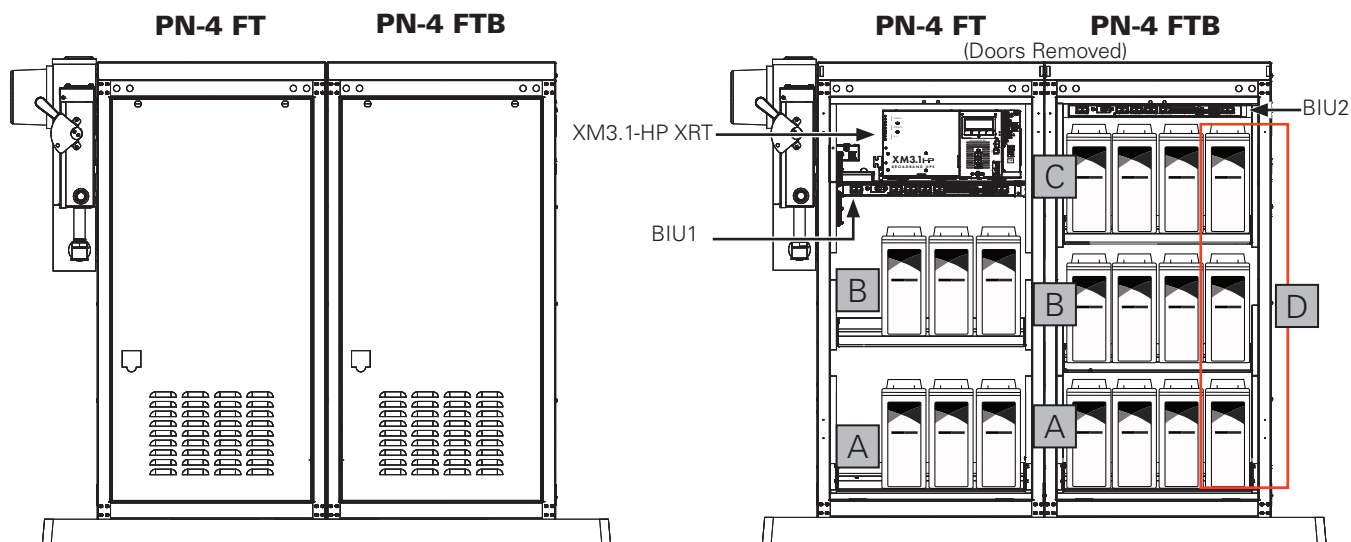
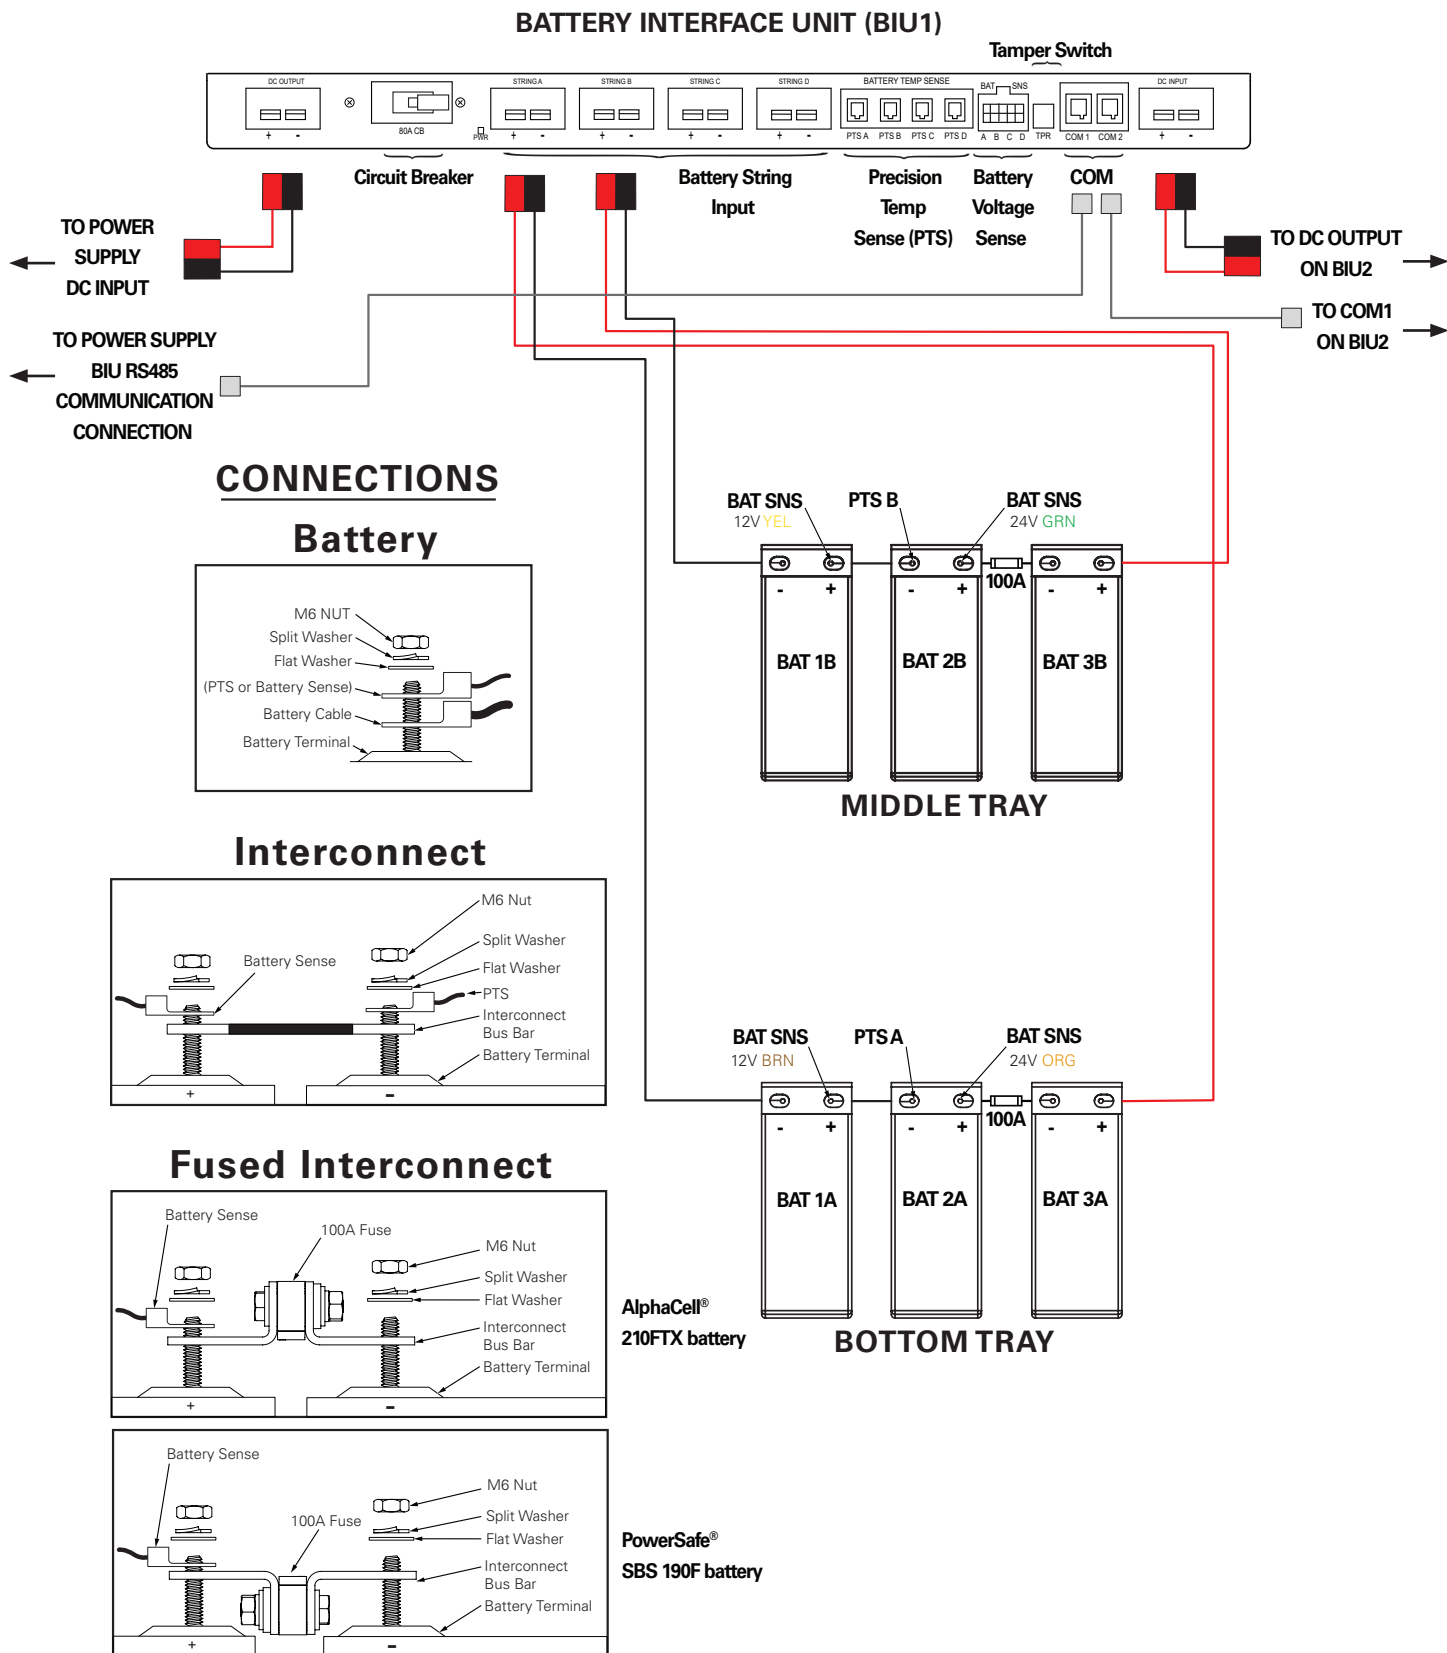
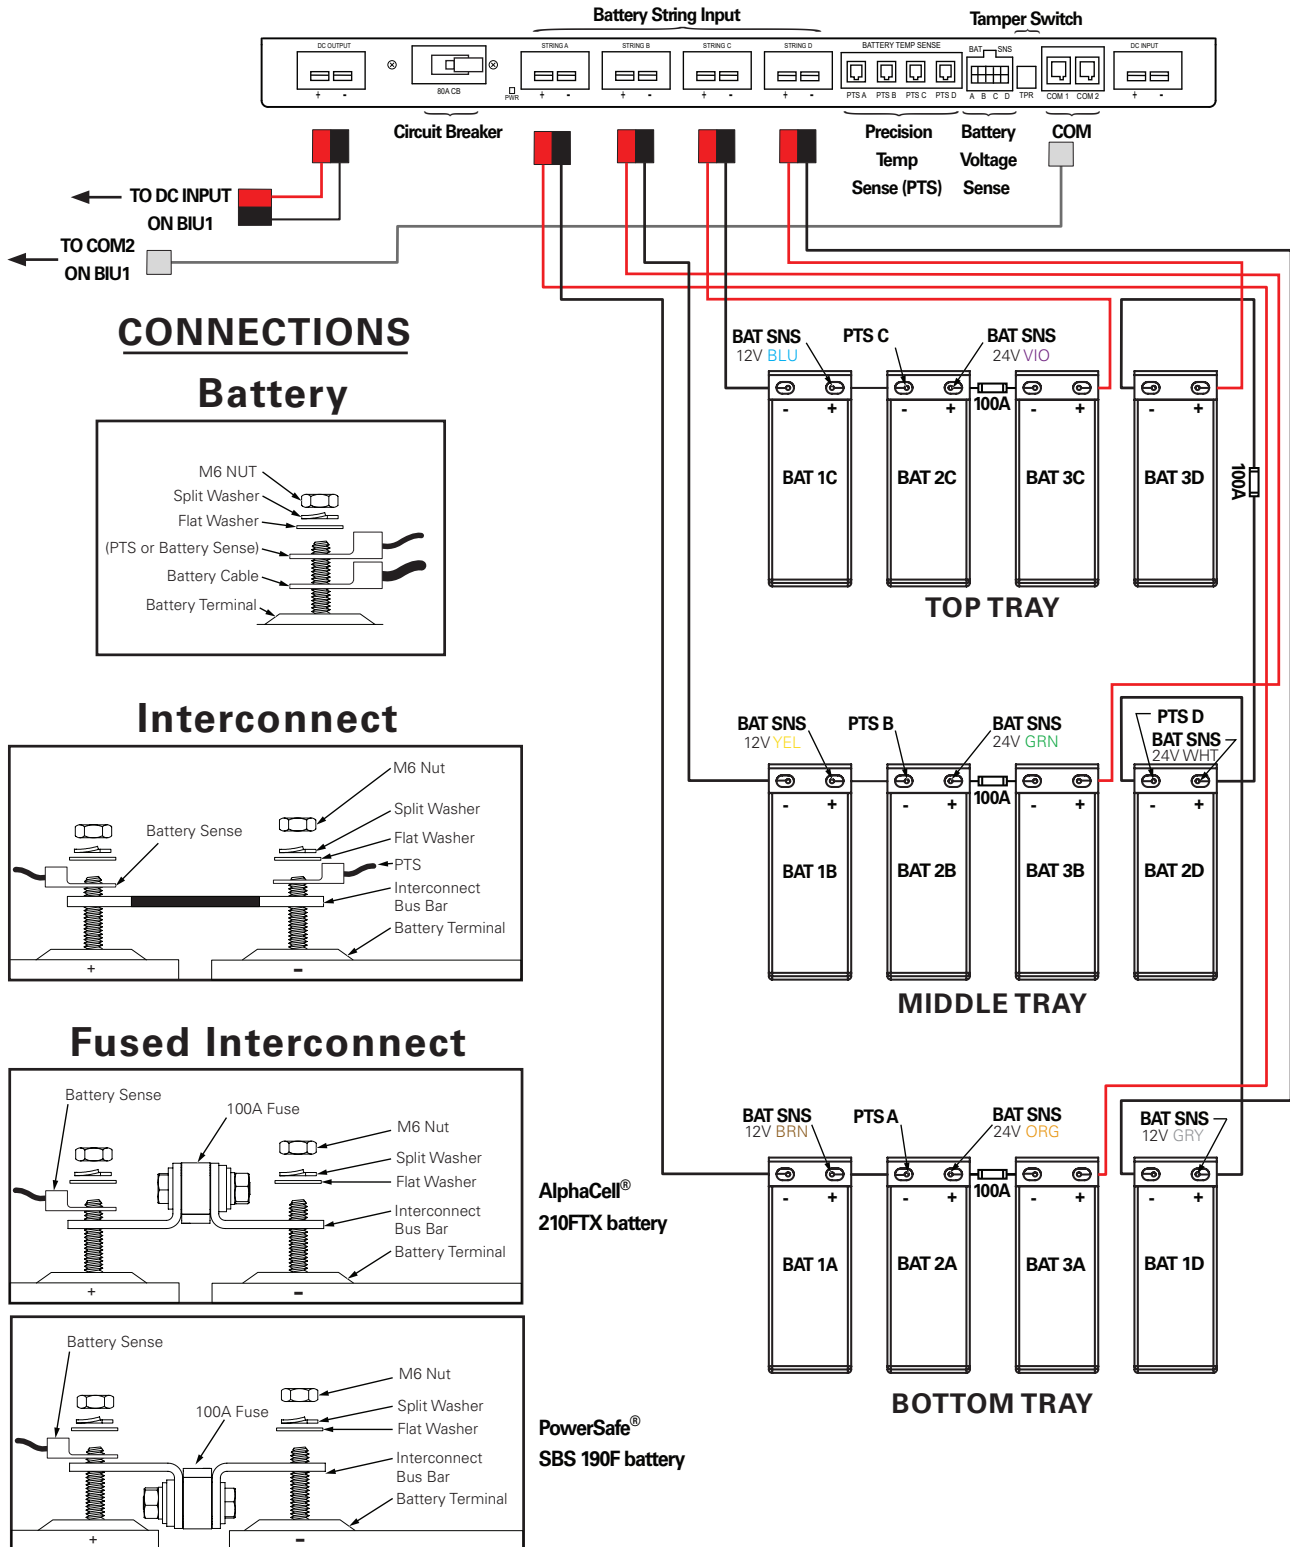

Fig. 1-1, XRT-TPPL Power System
Fig. 2-9, PN-4 FT XRT-TPPL Power System Wiring Diagram
Fig. 2-10, PN-4 FTB XRT-TPPL Power System Wiring Diagram
Battery string locations for an 18-battery configuration are noted in the image below as well as in Fig. 2-9 and Fig. 2-10. Each string uses three batteries. Note that String D consists of the fourth battery on each row in the PN-4 FTB enclosure.
Review Fig. 2-9 and Fig. 2-10 for hardware stack-up and wiring diagram to see the recommended layout and set up, then proceed with the installation procedure below.
3. Ensure BIU (Battery Interface Unit) is installed (see Fig. 1-1 for mounting locations) and verify the tamper switch (TPR) is plugged in.
13. Install 876-00059-20 BAT,INTG,36VDC,2STRG,PN4FT,W/BIU,PTS,BS in the PN-4 FT enclosure with two battery trays. (See Fig. 1-1, Fig. 2-9 and *p/n 031-00014-08* System Wire Diagram available on Alpha's website for reference.)
17. Install 876-00059-22 BAT,INTG,36VDC,4STRG,PN4FT,W/BIU,PTS,BS in PN-4 FTB enclosure with 3 battery trays. (See Fig. 1-1, Fig. 2-10 and *p/n 031-00014-08* System Wire Diagram available on Alpha's website for reference.)